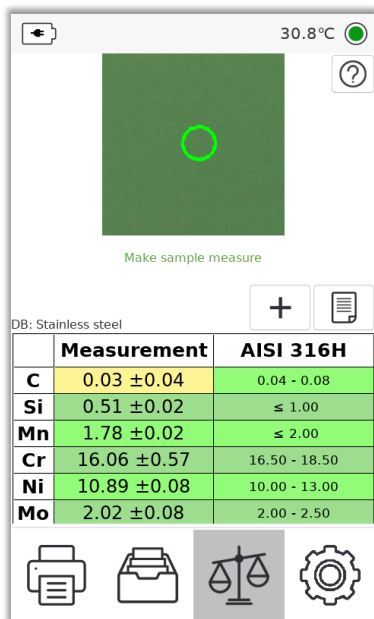

Figure 13 Measurement window with Comparison for the grade
4.5.7.6. In this mode, the right side of the table shows the grade composition, the left side shows the measured values (Figure 13).